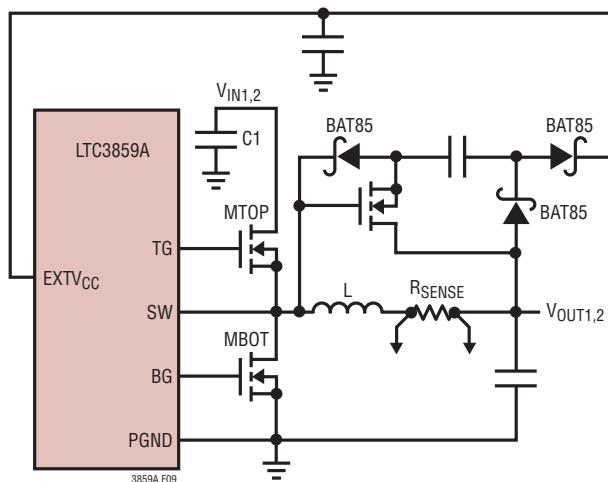

Figure 9. Capacitive Charge Pump for EXTV_{CC}
4. EXTV_{CC} connected to an output-derived boost network off one of the buck regulators. For 3.3V and other low voltage buck regulators, efficiency gains can still be realized by connecting EXTV_{CC} to an output-derived voltage that has been boosted to greater than 4.7V. This can be done with the capacitive charge pump shown in Figure 9. Ensure that $\text{EXTV}_{\text{CC}} < V_{\text{BIAS}}$.